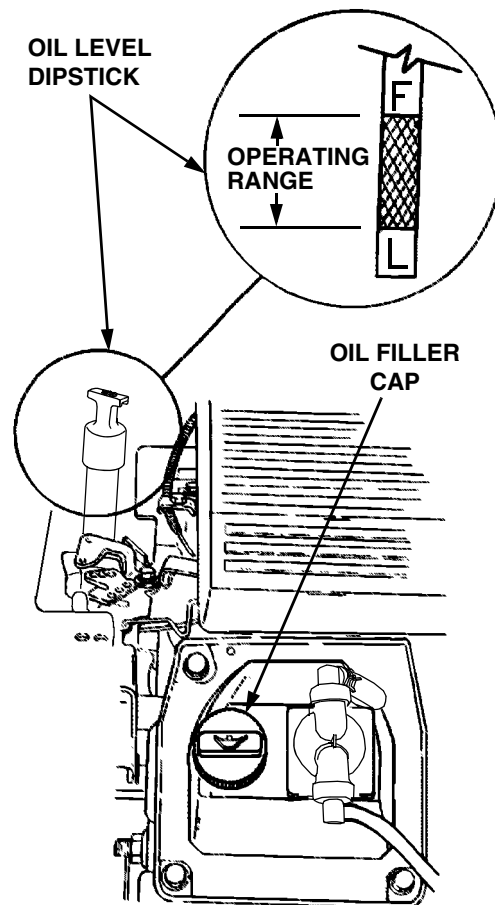

Figure 19
Regularly checking and maintaining the engine oil level in the crankcase cannot be overemphasized. Close monitoring of the oil level during the first 10 hours of operation is especially important. Referring to Figure 19, check the oil level **BEFORE EACH USE** as follows:
3. Remove the oil filler cap from the left valve cover and SLOWLY pour in oil. Fill the crankcase until the oil level reaches the “FULL” mark on the dipstick (Refer to Figure 19).
3. Remove the oil filler cap from the left valve cover and SLOWLY pour in oil. The oil capacity is approximately 4 pints. Fill the crankcase until the oil level reaches the “FULL” mark on the dipstick (Refer to Figure 19).